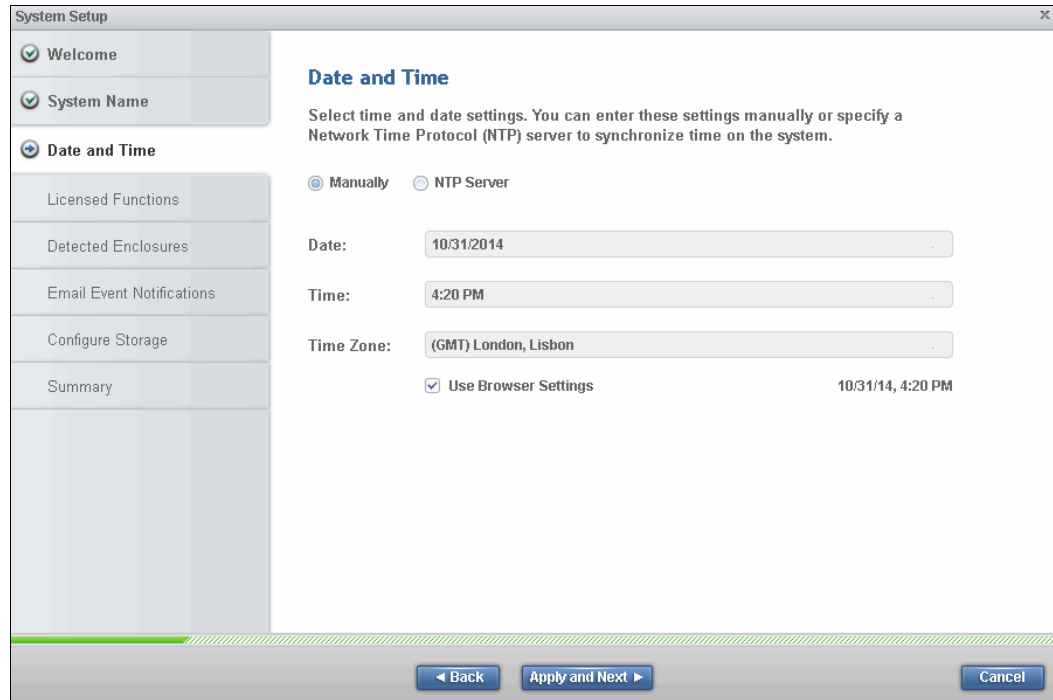

Figure 2-24 Initial setup: Date and Time
- There are two options for configuring the date and time. Select the required method and enter the date and time manually, or specify a network address for an NTP server. After this is done, the **Apply and Next** option becomes active, as shown in Figure 2-24.